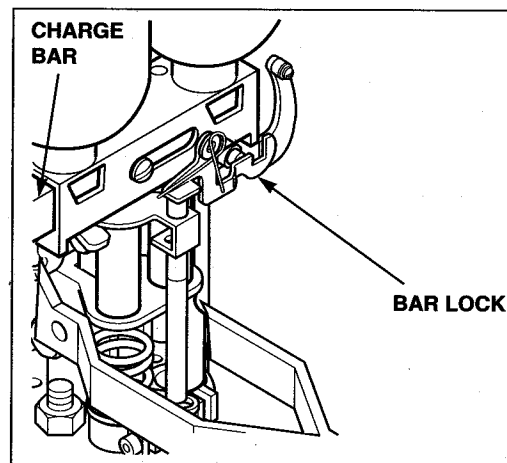

Figure 13
- Lock the charge bar in position as shown in Figure 13, by sliding the charge bar to the left and placing the bar lock hook upward into position.